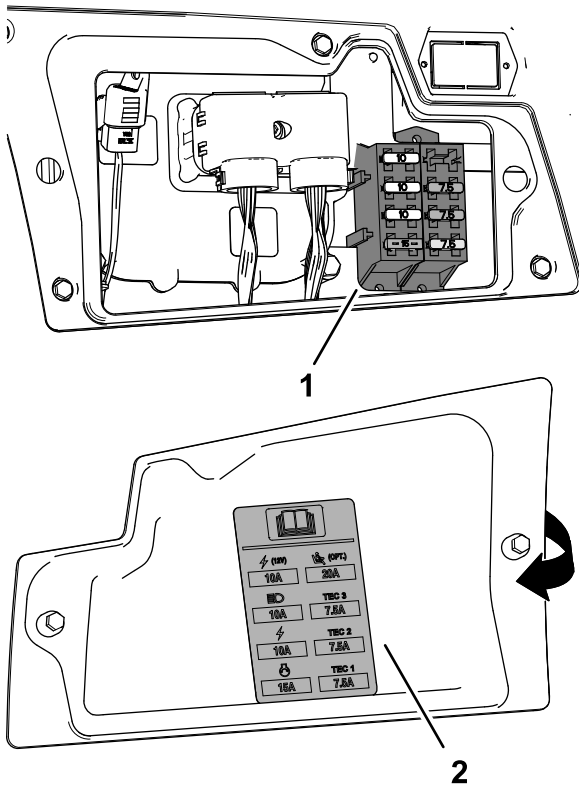

Figure 87
3. Replace the open fuse (Figure 87) with the same fuse type and amperage rating.